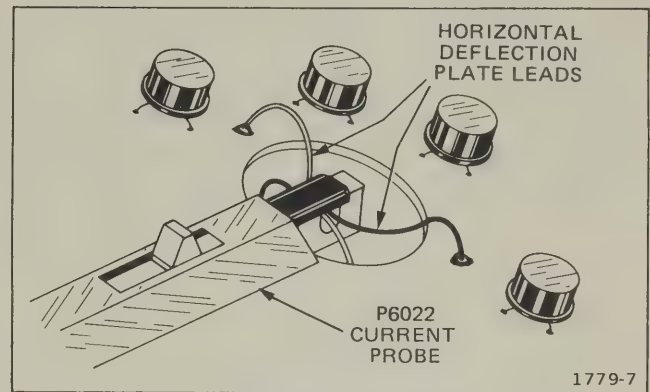

Fig. 6-10. Proper connection of current probe to horizontal deflection plate leads.
e. Connect the probe head round the crossed horizontal deflection plate leads. See Figure 6-10 for proper probe connection.